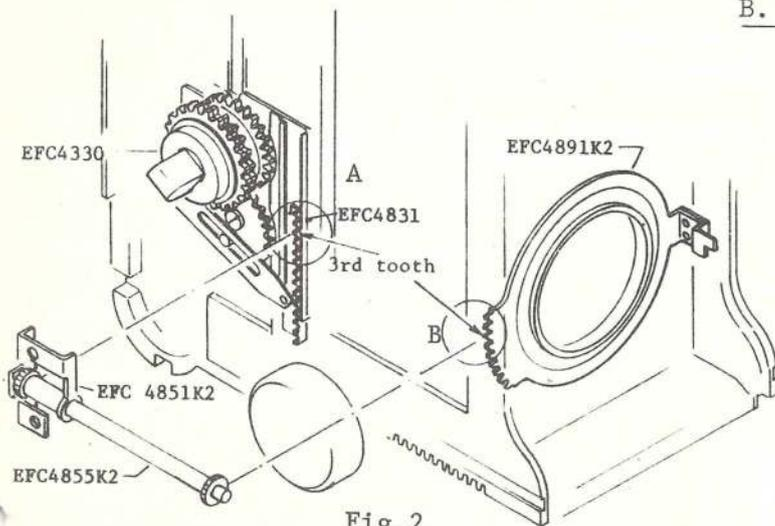

Fig.2
- c) Attach EFC 4330 so that its stopper is in contact with the edge of Wind stop lever. (B)
- a) Setting position of Cocking link gear EFC 4851K2 is meshed with the 3rd tooth of Charge rack EFC 4831. (A) of Fig. 2.
- c) Gear of EFC 4855K2 is meshed with the 3rd tooth of Cocking gear EFC 4891K2. (B) of Fig. 2.